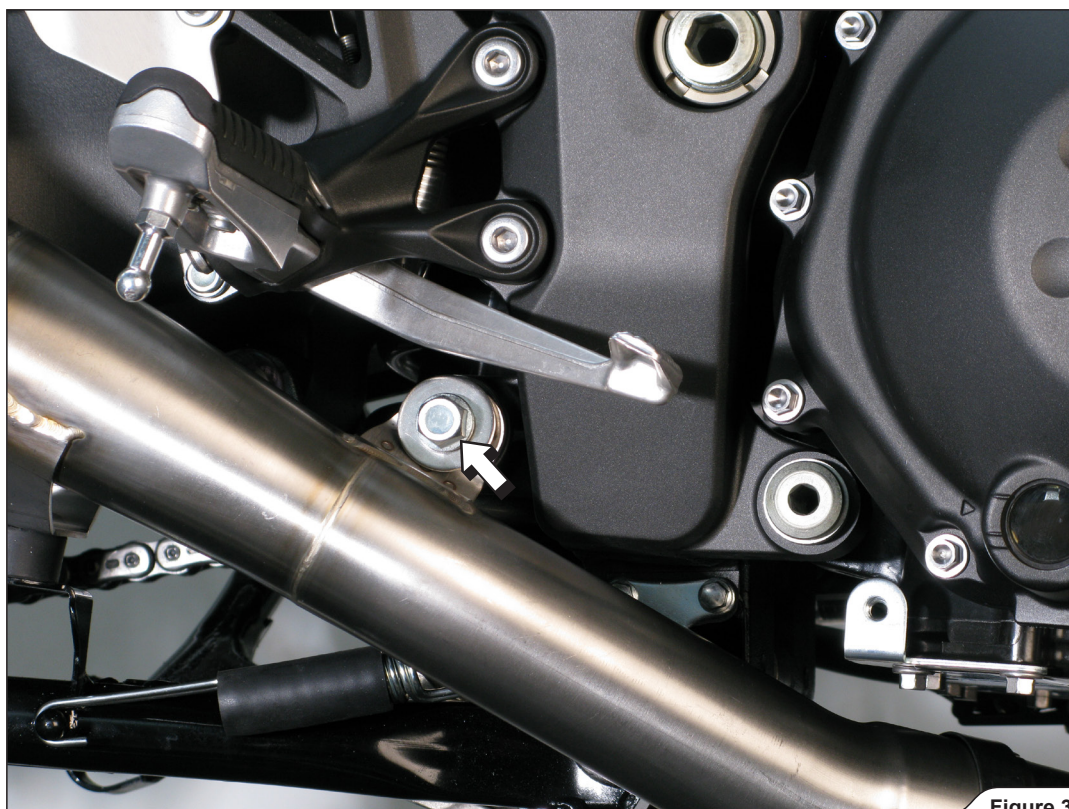

Figure 30
12. Hand tighten the right link pipe's bracket, using stock bolt, nut and washer (**Figure 30**).